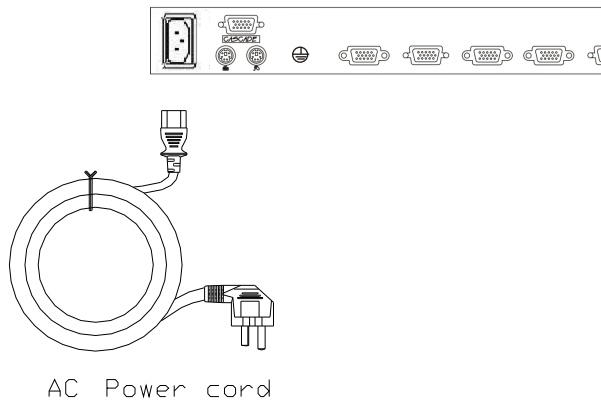

Fig.6
* The AC power cord plugs in power socketsee (fig.6)